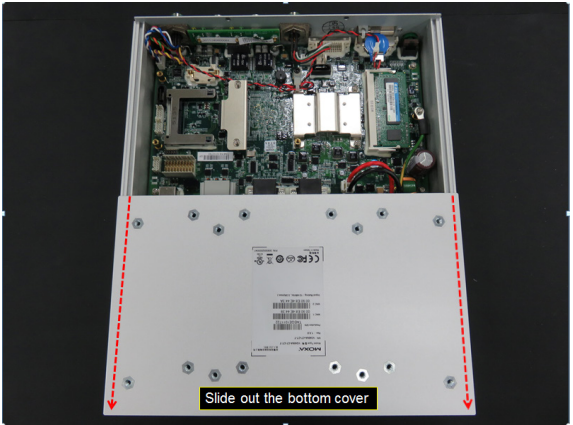

Figure 7
4.1.6 Slide out the bottom cover of the V2406A completely as shown in Figure 7.